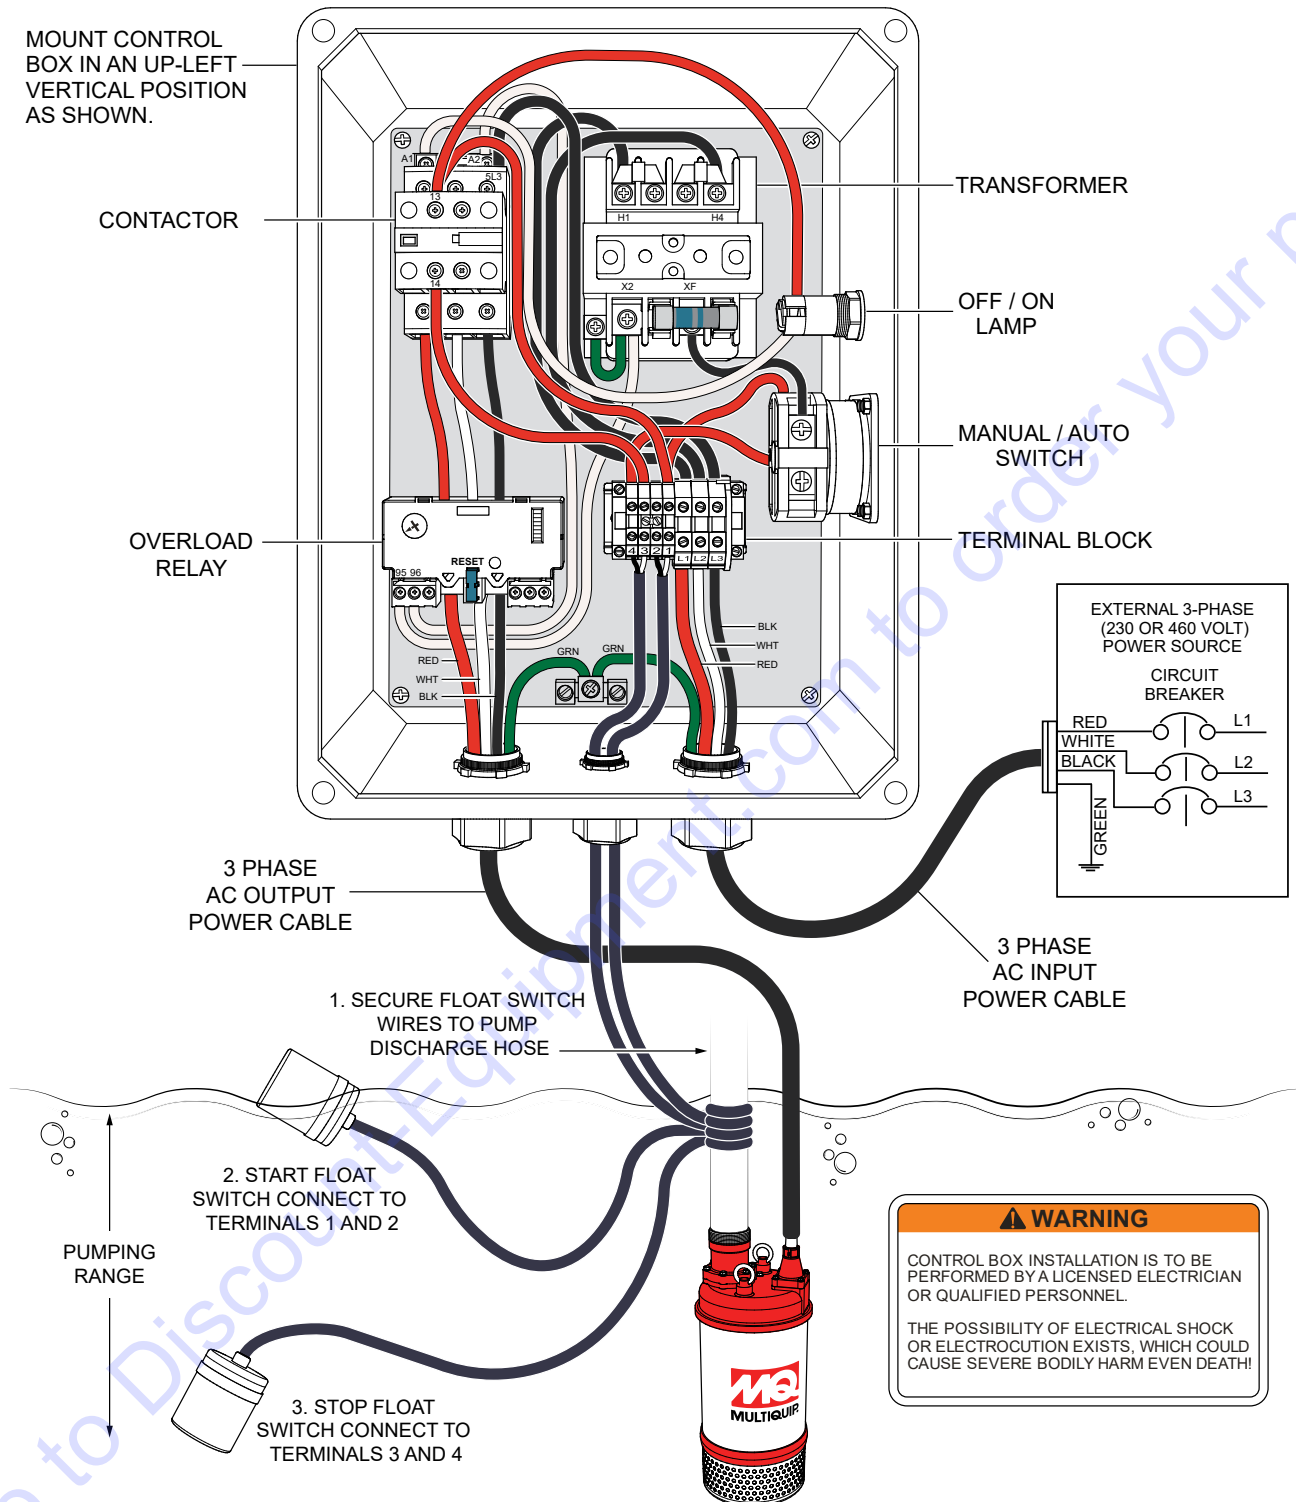

Figure 9. Three Phase Control Box CB126974/Pump System Diagram
1. Remove the float switch input connector housing, then route the float switch wires through the cable gland on the control box. Attach the wires of the float switch to the terminal block as indicated by Table 6 and Figure 9.
2. Remove the 3-phase AC input connector housing from the control box, then route the three phase input power cable through the cable gland on the control box. Attach the wires to the AC terminal block inside the control box as indicated by Table 7 and Figure 9.
2. Remove the 3-phase AC output power connector housing on the control box, then route the output power cable through the cable gland on the control box. Attach the wires to the AC terminals on the overload relay module (heaters load side) as indicated by Table 8 and Figure 9.